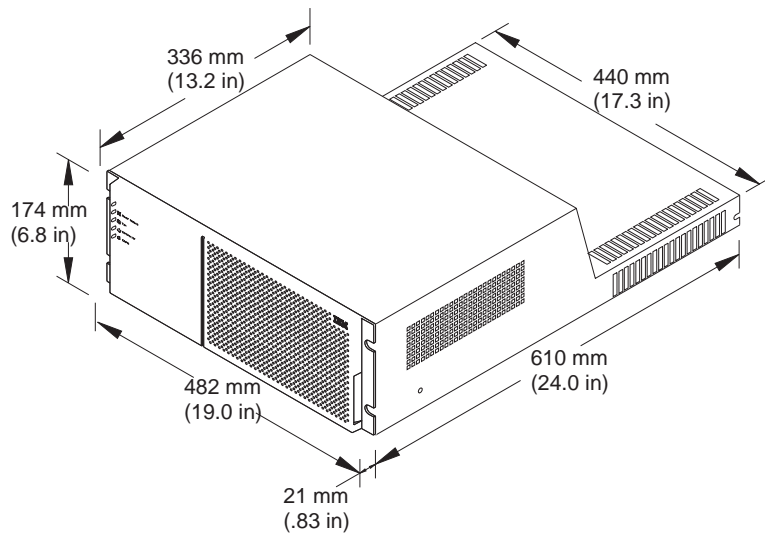

Figure 29. Controller Unit Dimensions
- Sufficient space to install the controller unit (see Table 10 on page 56 and Figure 29).
Table 10 lists the controller unit dimensions, with and without the front cover, in and out of a shipping carton. Figure 29 shows dimensions for the models.